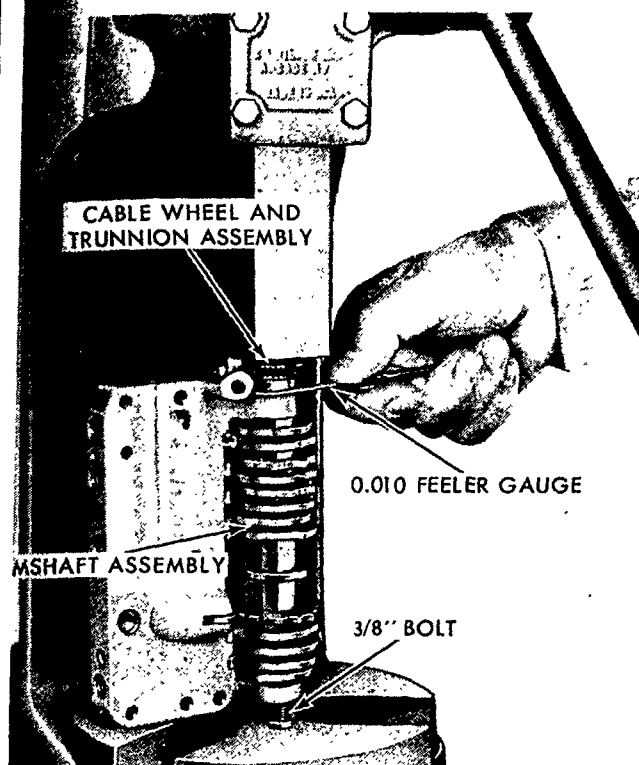

Figure 104
2. Position the camshaft assembly in the valve upper housing. Insert a $\frac{3}{8}$ " bolt into the left end of the camshaft to support the assembly while the cable wheel and trunnion assembly is being pressed into the right end, as shown in Figure 104. A clearance of 0.005-0.010 in. (0.127-0.254 mm) should be maintained between the cable wheel and valve housing, as shown. Press the trunnion into the left end of the camshaft.